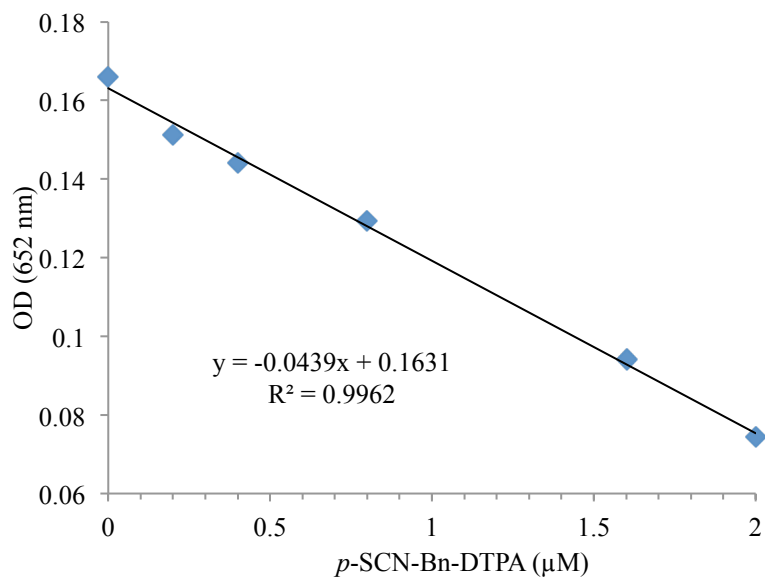

Fig. S12. Relationship between the absorbance of the yttrium complex of arsenazo III at 652 nm and the molarity of *p*-SCN-Bn-DTPA.
6. Standard curve for determination of DTPA content	(Fig. S12)